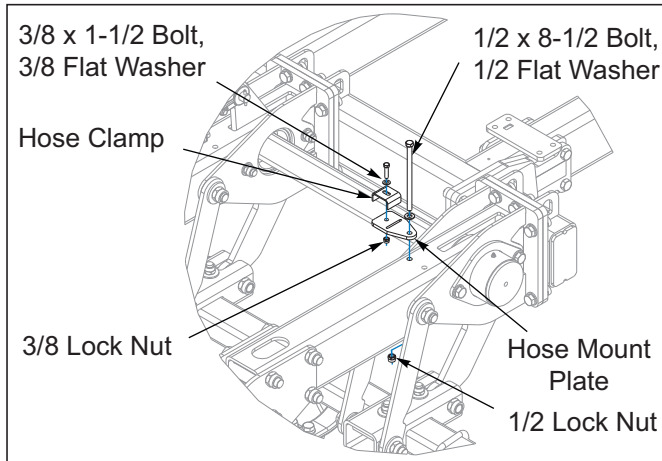

Figure 3-37: Hose Clamp Installation
11. Attach the hose mount plate to arm assemblies using 1/2 x 8-1/2 bolt, 1/2 flat washer and 1/2 lock nut See Figure 3-37.